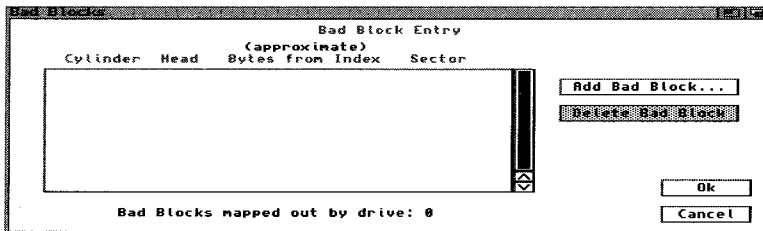

Figure 7. Bad Blocks Window
- 1 Click on the Modify Bad Block List gadget on the Hard Disk Preparation, Partitioning and Formatting window to view the Bad Blocks window, illustrated in Figure 7.